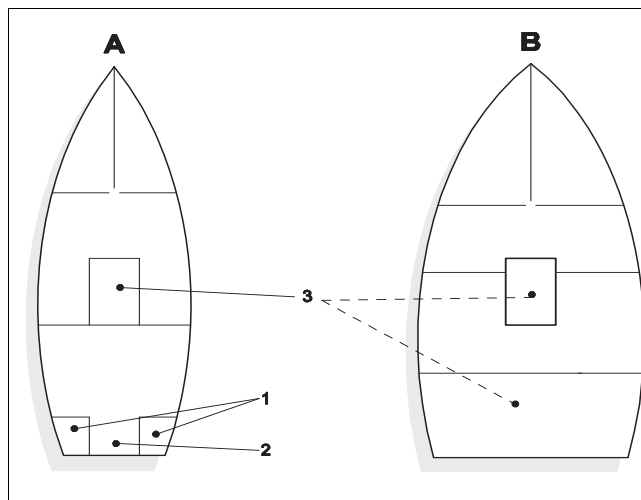

Fig. 2 Installing heater in locker (1), rudder box (2) or engine compartment (3)
► Recommended installation locations (see Fig. 2):